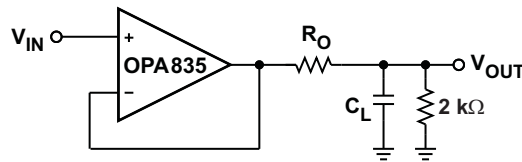
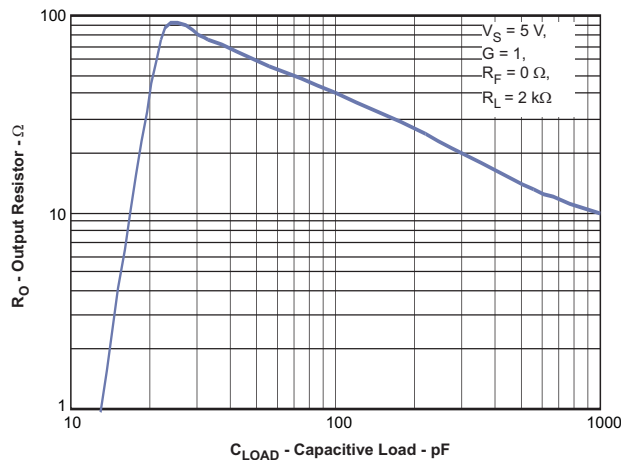
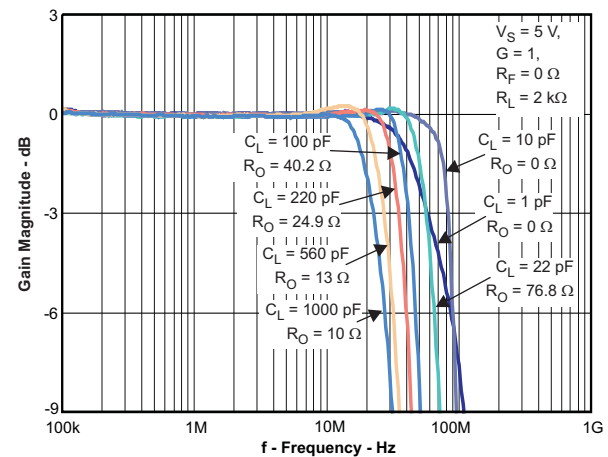

Figure 23.  $R_O$  versus  $C_L$  Test Circuit
Figure 24. Series Output Resistor vs Capacitive Load
Figure 25. Frequency Response with Capacitive Load
Figure 23 shows the test circuit and Figure 24 shows the recommended values of  $R_O$  versus capacitive loads,  $C_L$ . See Figure 25 for frequency response with various values.
4. A series output resistor is recommended to be placed as near to the output pin as possible. See "Series Output Resistor vs. Capacitive Load" (Figure 24) for recommended values given expected capacitive load of design.